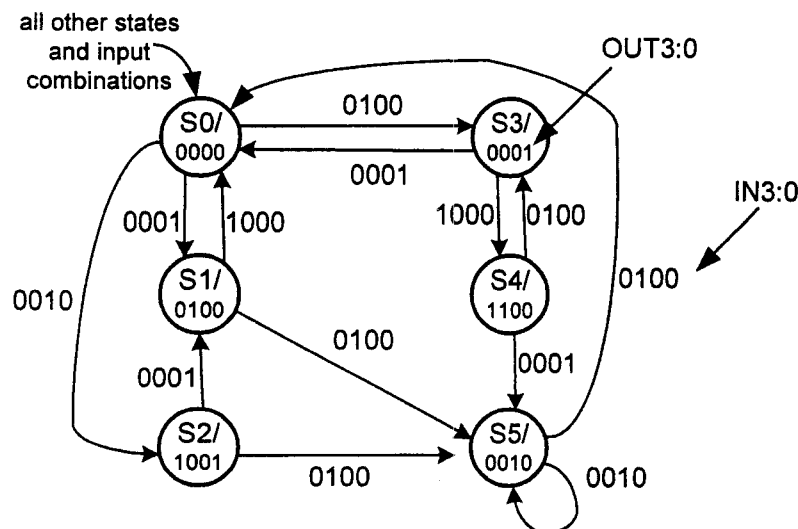

Figure 5.1
5. Figure 5.1 shows the state diagram of a Moore finite state machine (FSM) with 4 inputs and 4 outputs. The FSM is to be implemented using an Altera's FLEX10K FPGA device which contains Logic Elements (LEs) each consisting of a 4-input lookup table (LUT) and a register. It also contains a number of Embedded Array Block (EAB), which can be configured as a 256×8 ROM with asynchronous address inputs and registered data outputs.